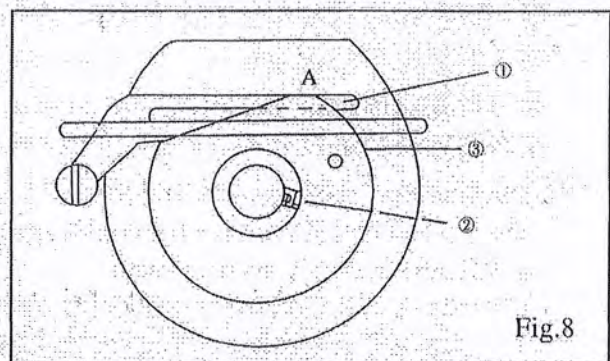

Fig.8
4. Chain Loper Thread Cam Control Fig.8